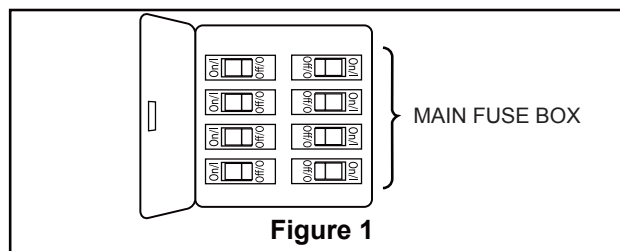
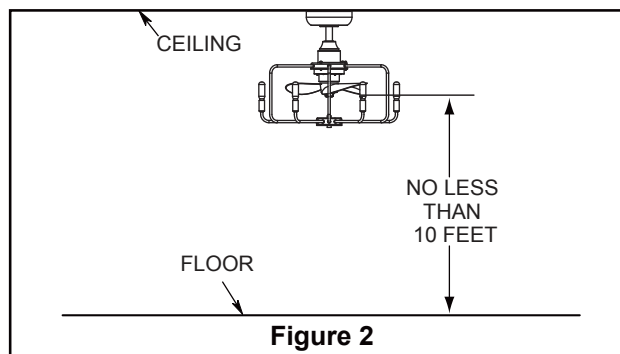
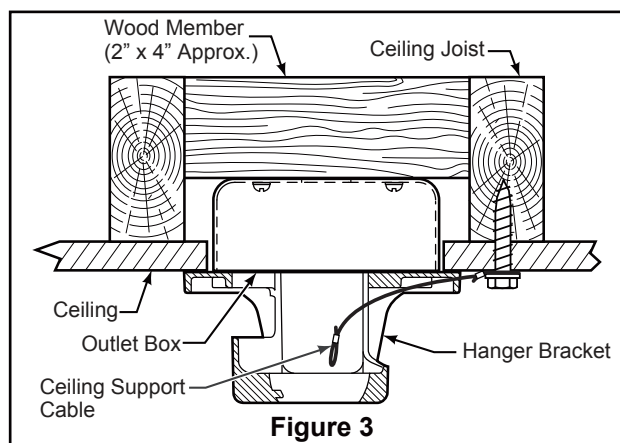

Figure 1
Figure 2
Figure 3
Your new ceiling fan will require a grounded electrical supply line of 120 volts AC, 60 HZ, 15 Amp Circuit. Electrical code requires use of a fan-rated outlet box to support the extra weight and motion associated with a ceiling fan. A fan-rated box will be labeled as such and typically supports up to a 70lbs ceiling fan. Fan-Rated Outlet Boxes vary in ratings and design. Ensure the ratings of your ceiling fan outlet box meet the requirements for the ceiling fan being installed. Figure 1, Figure 2 and Figure 3 depicts different structural configurations that may be used for mounting the outlet box.
Low-profile use (Figure 1)
Deep-profile use (Figure 2)
Brace use (Figure 3)
- 1. Remove the hanger ball portion from the downrod/hanger ball assembly by loosening the set screw in the hanger ball until the ball falls freely down the downrod. Remove the pin from the downrod, then remove the hanger ball. Retain the pin and hanger ball for reinstallation in Step 6. (Figure 1)
- 2. Remove the hairpin clip and clevis pin from the bottom of the downrod. Retain the pin and clip for reinstallation in Step 4. (Figure 2)
- 3. Loosen the two set screws and locking nuts in the downrod support of the motor assembly. Route the black, white, blue wires and safety cable through the downrod. (Figure 3)
To avoid possible fire or shock, be sure electricity is turned off at the main fuse box before hanging. (Figure 1)
The fan must be hung with at least 10' of clearance from floor to blades. (Figure 2)
1. Securely attach the hanger bracket to the outlet box using the outlet box screws and washers supplied with the outlet box. (Figure 3)
2. Drill a 1/4" pilot hole into the building structure to prevent splitting or cracking with installation of the lag bolt. Using the 3/8" x 2" lag bolt and flat washer, attach safety cable to ceiling joist or wood structural member. The lag bolt will pass through the flat washer, safety cable loop, and into the building structure. (Figure 3)
NOTE: Ceiling support cable cannot be secured to outlet box only, it must be directly secured to ceiling joist or structural member using the 3/8" x 2" lag bolt and flat washer. (Figure 3)
- 1. To set the code on receiver unit, slide dip switches to the same positions as set on the remote. (Figure 1)
<p>To avoid possible electrical shock, be sure electricity is turned off at the main fuse box before wiring. (Figure 2)</p>
- 2. Slide the receiver into the hanger bracket before wiring as shown in figure 3.
2. Securely attach and tighten the canopy screw cover over the shoulder screws in the hanger bracket utilizing the key slot twist-lock feature. (Figure 2)
- **2.** Restore electrical power to the outlet box by turning the electricity on at the main fuse box. (Figure 2)
- **3.** To make fan operational, install 23A/12V battery (included) in hand-held remote transmitter, with fan power off. Then follow the remote code setting process. (If not used for long periods of time, remove battery to prevent damage to transmitter). Store the remote away from excessive heat or humidity. (Figure 3)